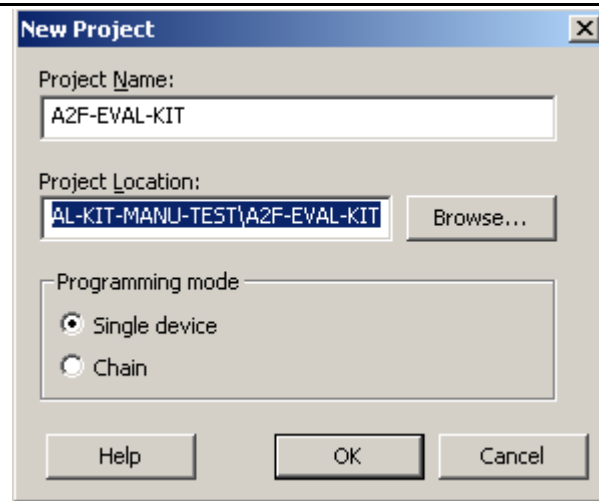

Figure 3 • New Project Creation
2. Create a new programming project (Figure 3).